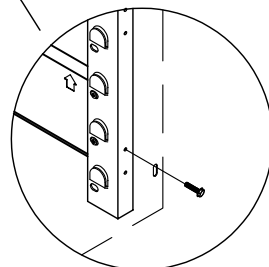

FIGURE 3
1. WHILE ONE PERSON HOLDS THE UPRIGHT FRAMES, A SECOND PERSON SHOULD INSTALL A BACK PANEL (BK). (SEE FIGURE 1) START AT THE 2nd HOLE FROM THE FLOOR AND PUT A SCREW THERE, THIS SHOULD BE THE SAME ON THE OTHER UPRIGHT. (FIGURE 3)